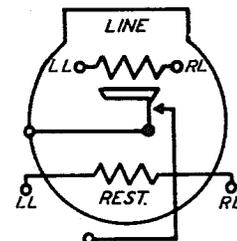

FIG. 29 - WINDING TERMINAL ARRANGEMENT AS VIEWED FROM THE REAR (TERMINAL SIDE) - 22 TYPE DROP
4.02 The winding terminal designations of drops as viewed from the rear terminal side are shown on Figs. 29, 30 and 31.